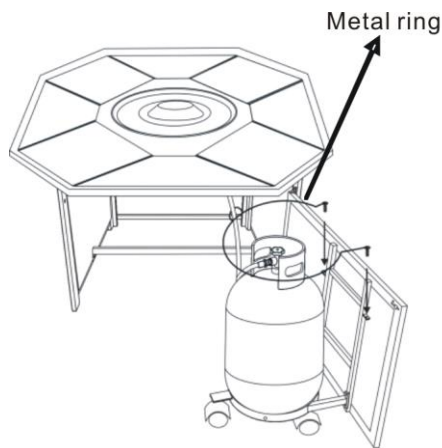
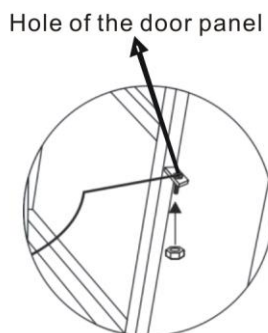
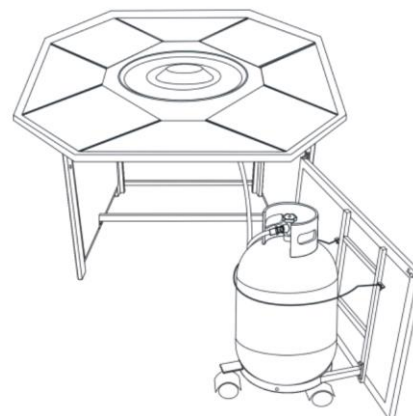

Figure 9
Figure 9a
Figure 10
9. Attach the metal ring ( as shown in Fig .9) pre-fitted with gas hose which is connected to the table top , into the hole of the door panel, then use hex bolt driver to screw 1/4"x5mm nut as shown in Fig.9a. The gas tank has fixed as shown in Fig.10